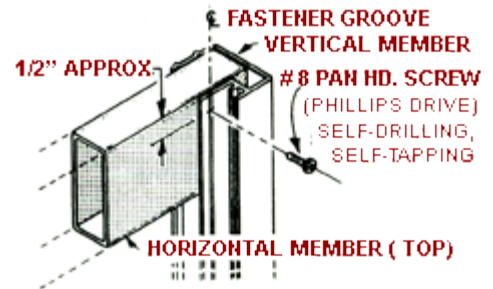

FIGURE 3
2.) After laying out the horizontal members, locate and drill two (2) 17/32 minimum diameter holes in the top horizontal. Locate each trolley hole at dimension "A" from the end and 1" from the inside face. See chart above for recommended dimension.
3.) With the top, intermediate and bottom horizontals properly fitted and spaced in the verticals, secure the grid at each of the four corners using one (1) #8 self-drilling, self-tapping fastener. The fastener should be located in the extruded pilot groove as shown **Fig. 3**